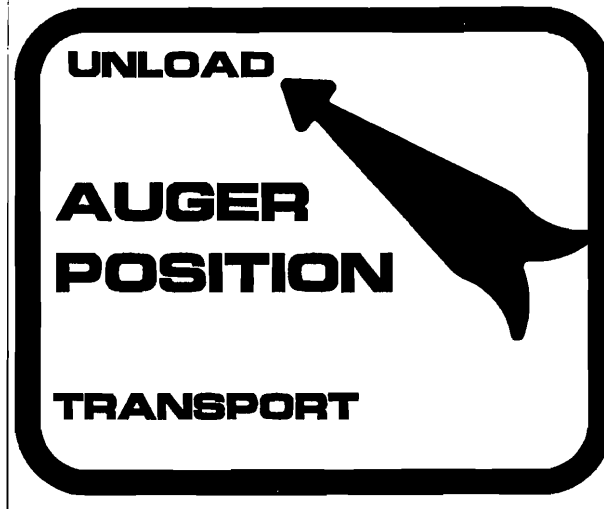

FIGURE 16: FLOW GATE INDICATOR
3. Slowly open internal flow control gate until indicator is positioned into open range. See Figure 16.